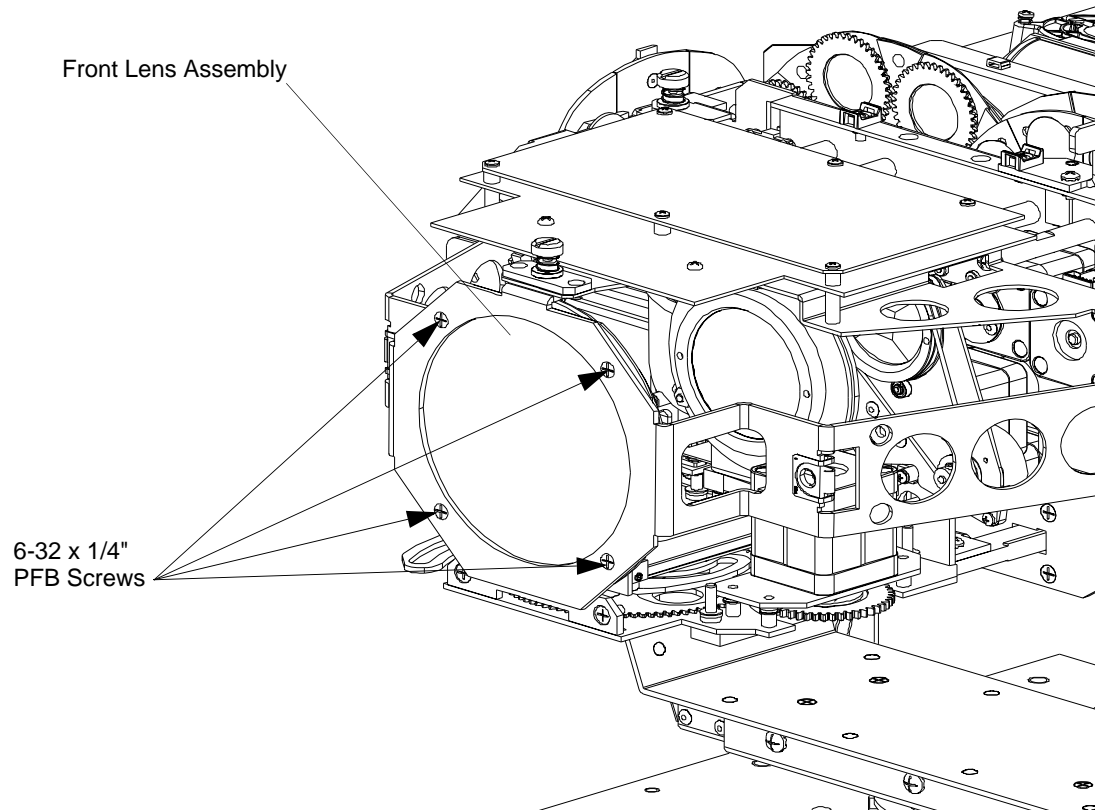

Figure 2-12: Front Lens Assembly Removal
- Step 3. At front lens, as indicated in Figure 2-12, remove four 6-32 x 1/4" PFB screws and remove lens from inside.